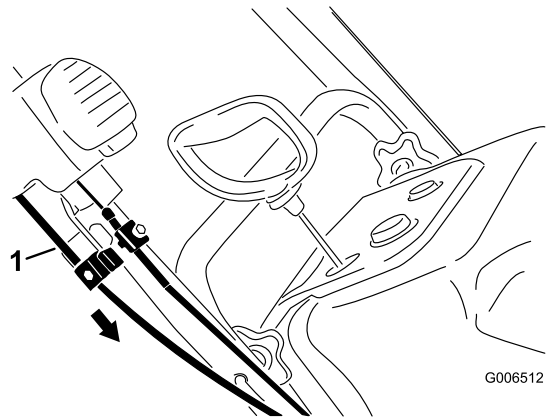

Figure 34
4. Hold the discharge chute in the straight-ahead position, pull the lower cable casing downward until you remove the slack in the cable, and tighten the screw on the lower cable clamp securely (Figure 34).